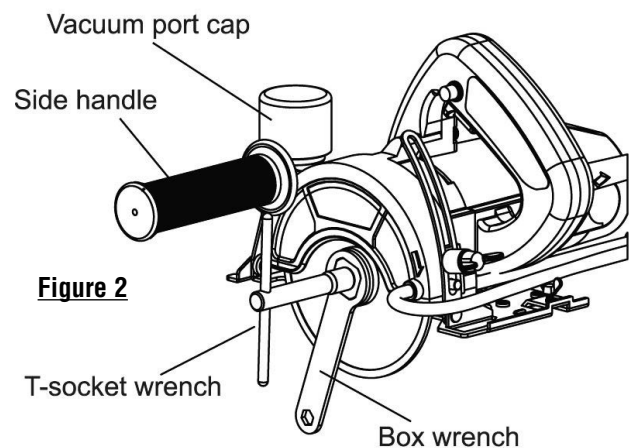
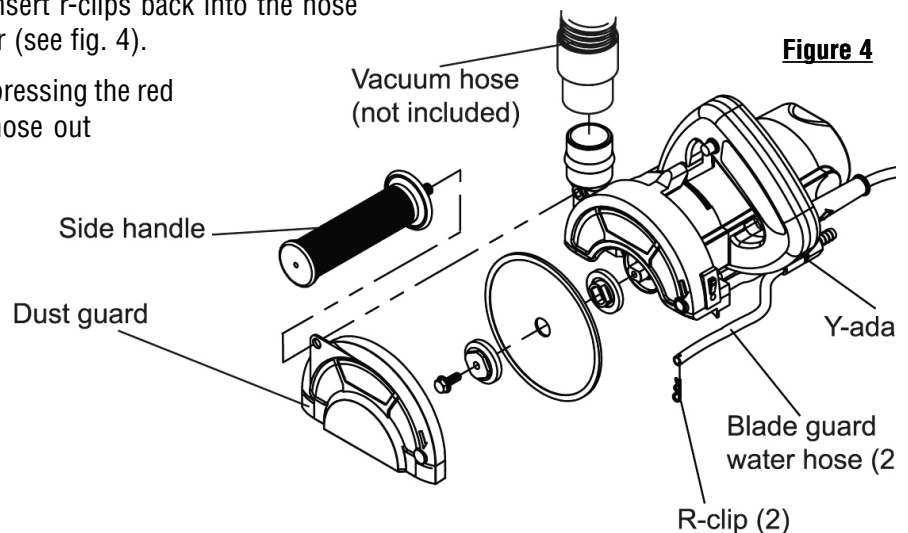

Figure 2
Figure 4
2. Install the blade and reinstall the outer flange and blade shaft bolt (see fig. 2).
3. Screw in the side handle if removed (see fig. 4).
1. To cut wet remove side handle to remove the dust guard (see fig 4).
3. Attach each hose to the y-fitting below the handle. Pull hoses from both ends to check if secure (see fig. 4).
1. If cutting dry, locate r-clips inserted in the hose portion protruding in the blade guard. Pull out each hose's respective r-clip. With the blade guard water hoses removed, insert r-clips back into the hose for storage. Store hoses for use later (see fig. 4).
4. Screw the side handle onto the blade guard (see fig. 4). Remove the vacuum port cap and attach a vacuum hose (see fig. 2 and 4).